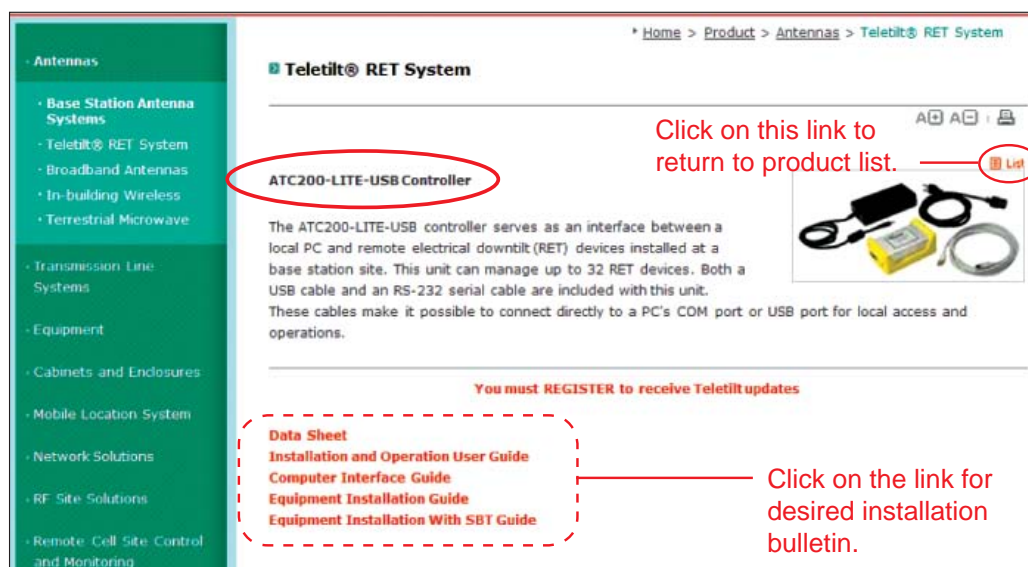

Figure 3-3. Selecting the Portable Controller Link to Access Installation Instructions.
4. Click on the link provided for **Installation and User Guides** (Figure 3-3).